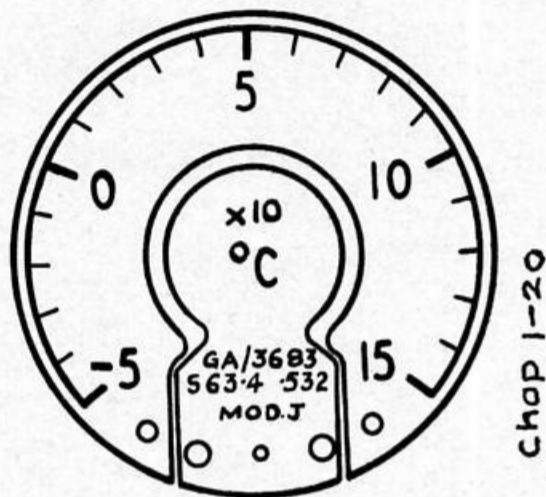

Fig. 1. Indicator, Type S63.4.532
1. This indicator (*fig. 1*) (Ref. No. 6A/3683) is calibrated in degrees C from -50 to +150; the indicator is controlled by variation of temperature in a resistance bulb which obeys a platinum law.